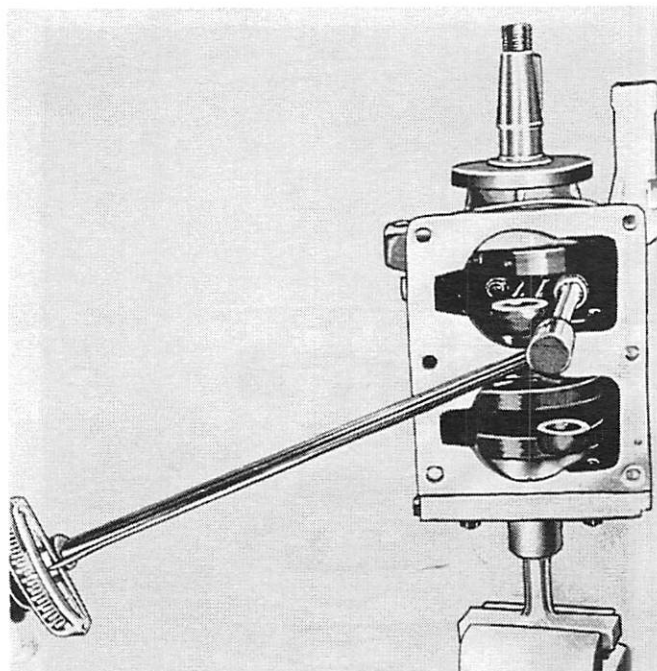

Figure 17. Torquing Connecting Rods
9. Tighten each screw evenly to 180 in. lbs. for perfect fit and repeat for other rod. (Refer to *Torque Specification Chart, Miscellaneous Section VIII.*) Use Torque Wrench (91-24268) with 3/8" sixpoint socket with 1/4" drive. (Figure 17)